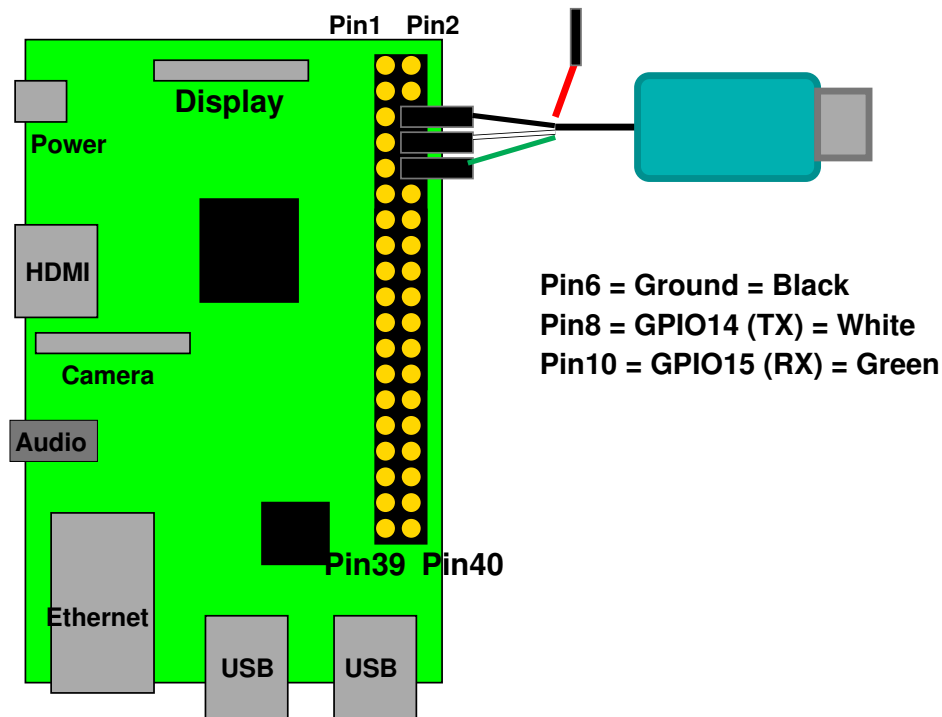

Figure 1: Raspberry Pi Serial Connection (Pi3 shown, Pi4 is similar)
- Connect the serial to USB converter to your Pi as shown in Figure 1.